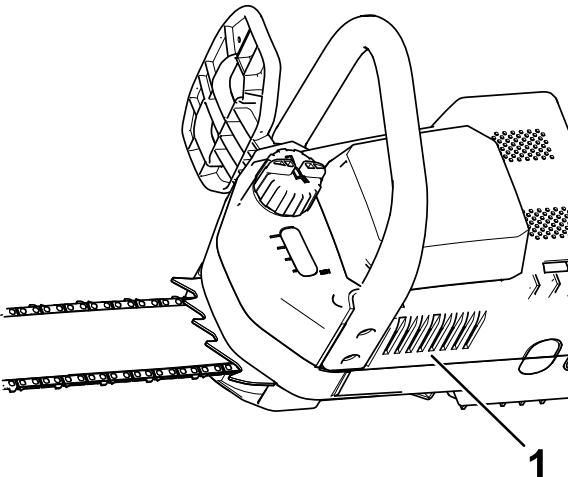
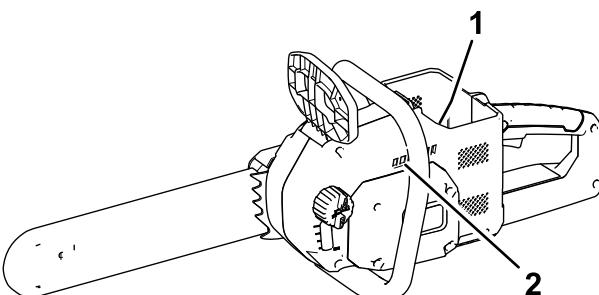

Figure 5
Figure 6
1. Make sure that the vents on the chain saw (Figure 5 and Figure 6) are free from dust and debris.